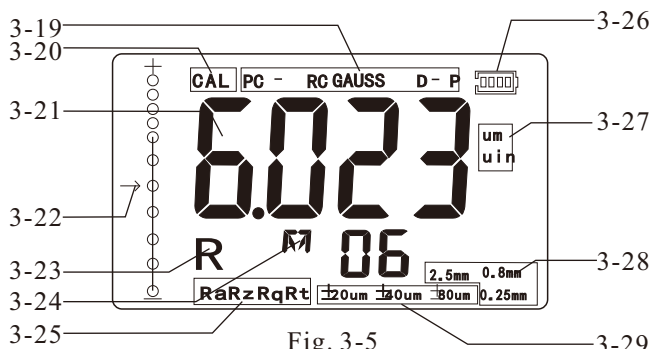

Fig. 3-5
- 7.2.1 Just depressing the key (DEL MENU) and not releasing it till 'FAC' on the Display. It is about 16 seconds from starting depressing key (DEL MENU). This state is also marked by 'CAL', please see the Fig. 3-5.